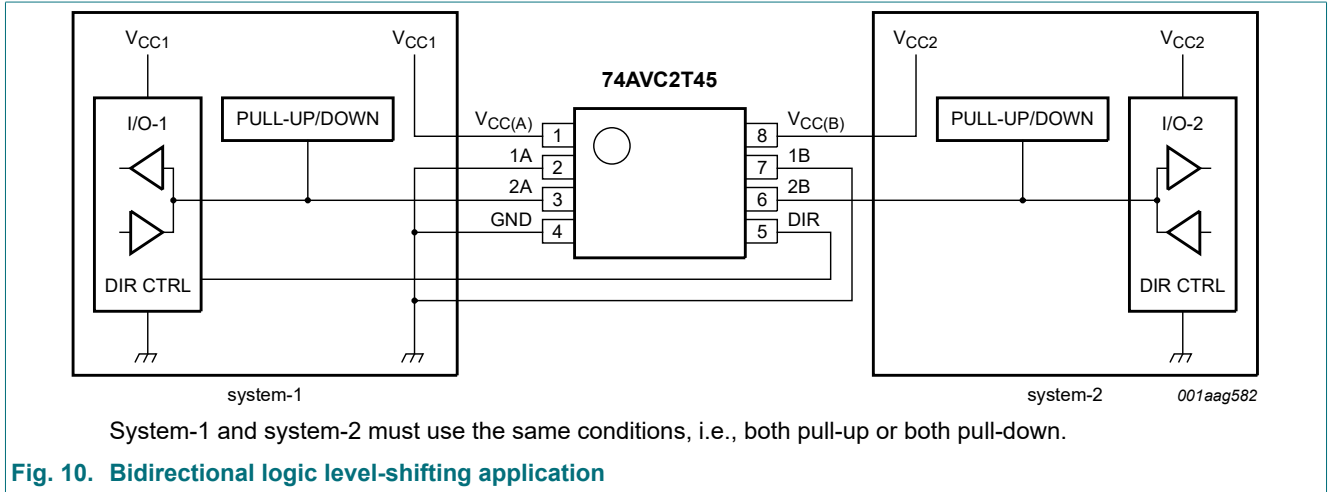

Fig. 10. Bidirectional logic level-shifting application
Fig. 10 shows the 74AVC2T45 being used in a bidirectional logic level-shifting application. Since the device does not have an output enable (OE) pin, the system designer should take precautions to avoid bus contention between system-1 and system-2 when changing directions.